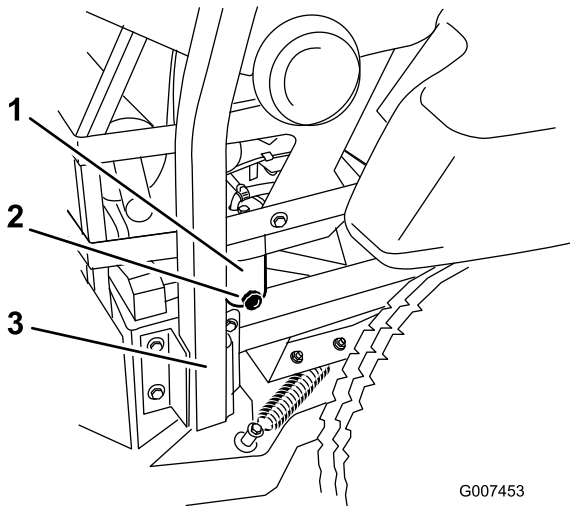

Figure 14
2. Open the water separator drain valve until fuel starts to drain out and close the valve (Figure 14).